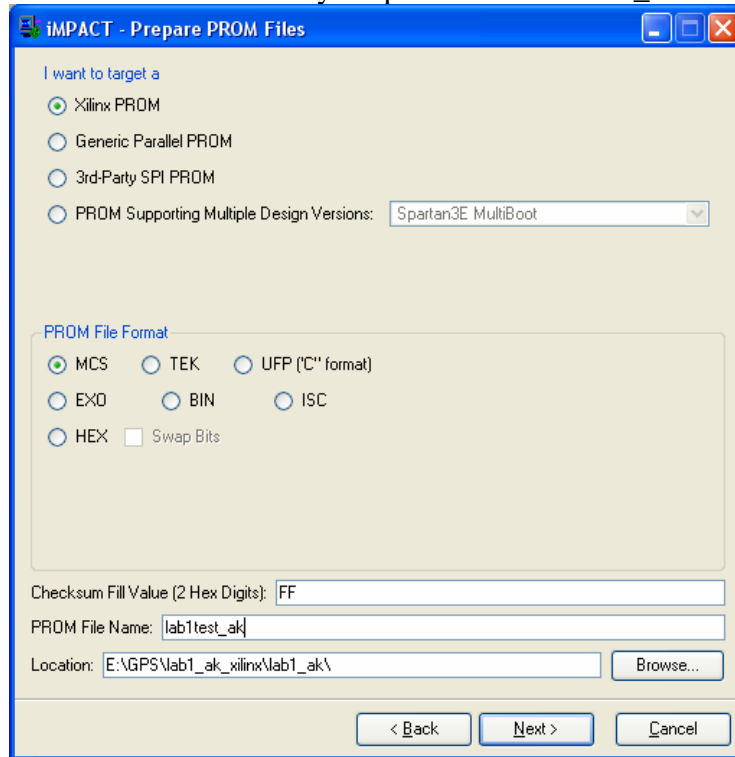

Figure 1: Prepare a PROM File
- After the '.bit' file has been generated, using 'Generate PROM, ACE or JTAG file', an iMPACT window will open. Since we are working with the on-board Programmable ROM, select 'Prepare a PROM file' on the window that shows up. Click 'Next'. Now select the options shown in Figure 1, since we are working with a 'Xilinx PROM', with the 'MCS' format. Enter a name for your prom file – lab1test_xx.